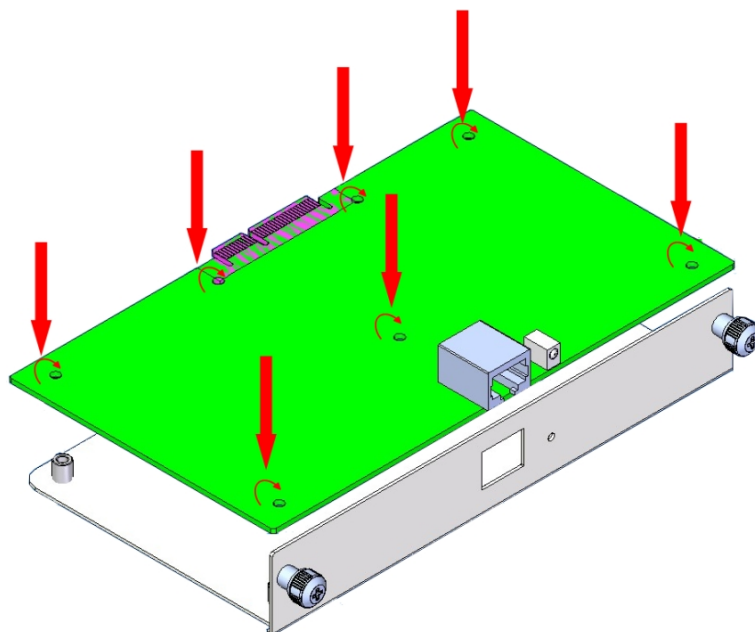

Fig. 8: Installing the expansion card
- (5) If you are using a fixed card, please proceed to the next step. If not, remove the tray from the device and place the card on the tray. Use appropriate screws to affix the card to the tray, being careful not to damage the card when tightening the screws. Please see Fig. 8 on page 9.